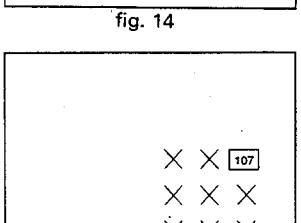

fig. 15
- Adjust value on the picture to 107 (fig. 15).